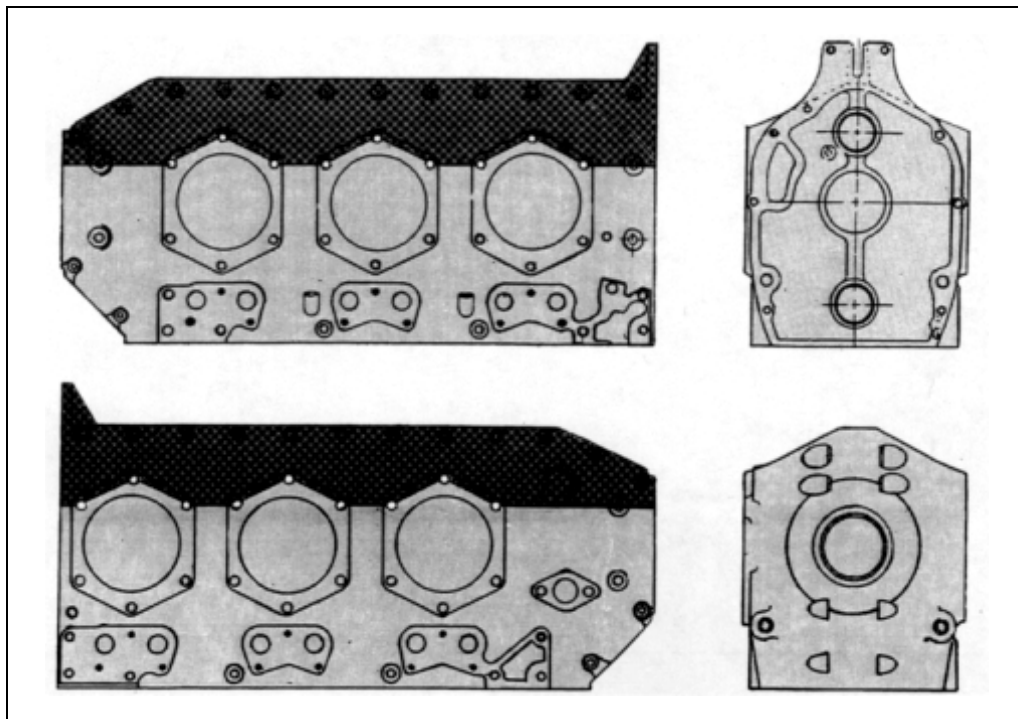
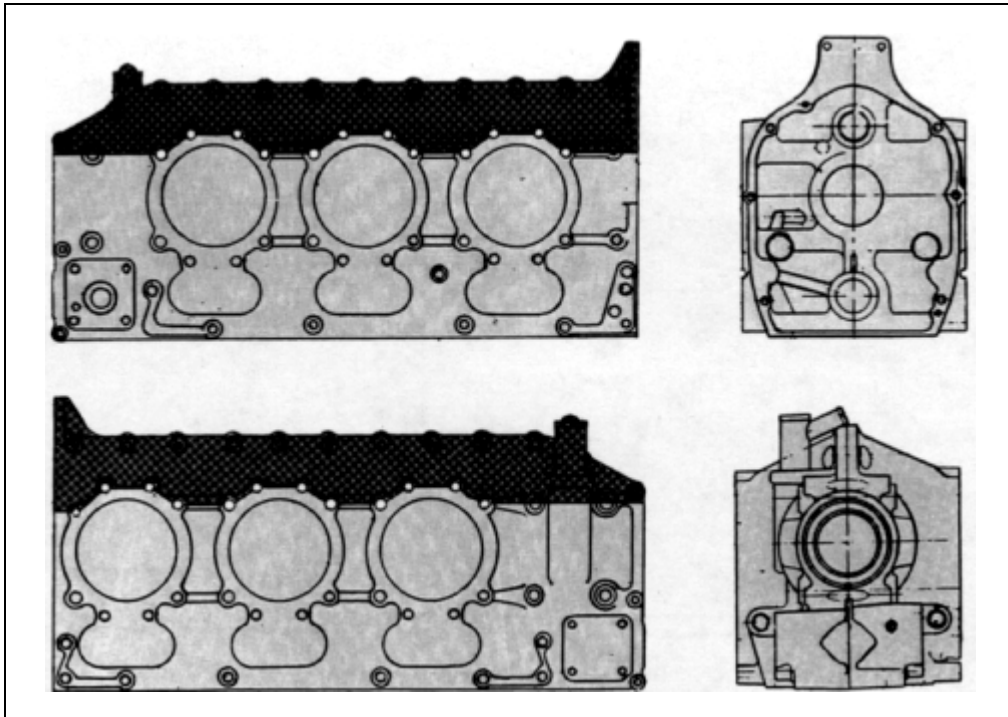

**Figure 1**
**FIGURE 2 O-200 CASE**
Critical (gray) and non-critical (dark gray) areas are illustrated in Figures 2,3,4,5,6 & 7. If a crack is observed in any of the non-critical (dark gray) areas less than two (2) inches in length, the crack should be scribe marked at its extremities and re-inspected for crack progression at the next 50 hours of operation, see Figure 1. If no crack progression is observed and no additional cracks are found, continue to re-inspect at regular intervals not to exceed 100 hours duration.